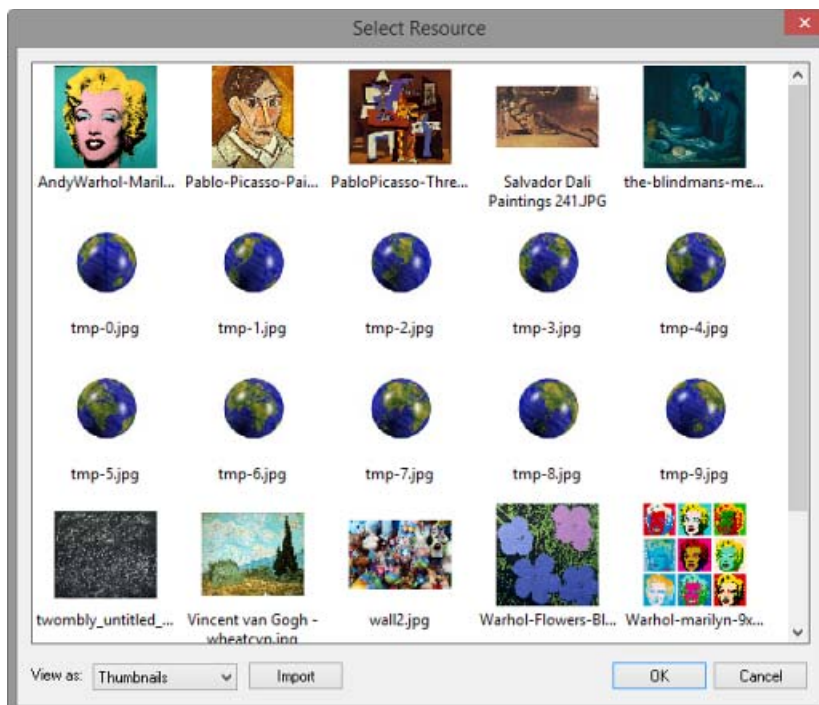

FIG. 302 Select Resource dialog
3. Click the **Add** button to open the *Select Resource* dialog, where you can select which images to include in the animation (FIG. 302):